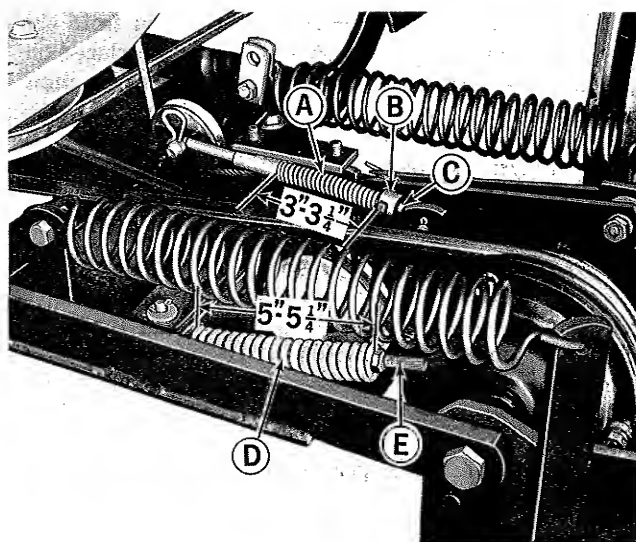

Figure 20. Sickle knife drive belt and cutter bar break away adjustments.
See figure 20. Tension on the sickle knife drive belt is checked by measuring the length of spring (A). With the drive belt installed the spring should be 3" to 3-1/4" long. If the spring length is not within this range readjust it as follows:
1. See figure 20. Loosen the set screw in collar (B) slightly so that the set collar can be moved on rod (C).
2. Push rod (C) to the right and set collar (B) to the left to compress spring (A). When spring (A) is compressed to 3", tighten the set screw in collar (B) to hold it in place.
3. After tightening the set screw in collar (B) check the
See figure 20. The cutter bar is hinged on the mower frame, so it can swing to the rear if a solid object is struck while mowing. The amount of force on the cutter bar required to operate the brake away mechanism is controlled by the length of spring (D). A good starting adjustment for spring (D) is 5" to 5-1/4". If the cutter bar breaks away too easily, such as when mowing but no solid object is struck, or does not break away easily enough, adjustment can be made as follows:
2. See figure 20. To adjust the break away mechanism so the